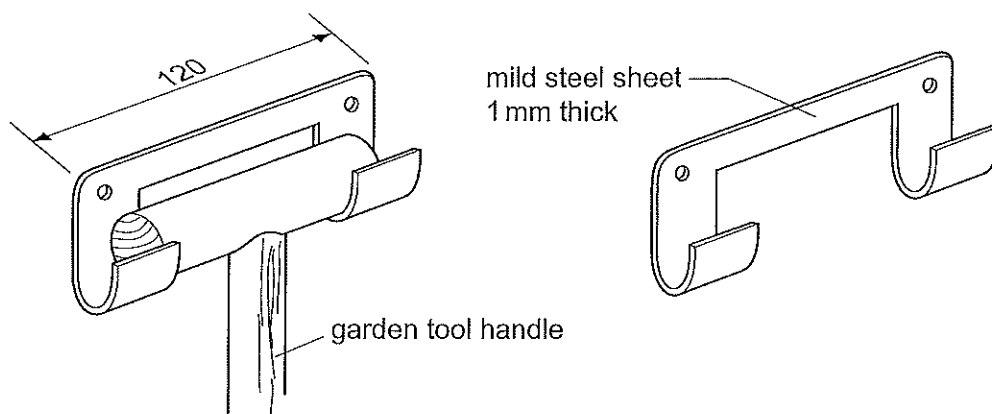

Fig. 12
- 8 Fig. 12 shows a bracket made from mild steel sheet that could be used to support a variety of garden tools.